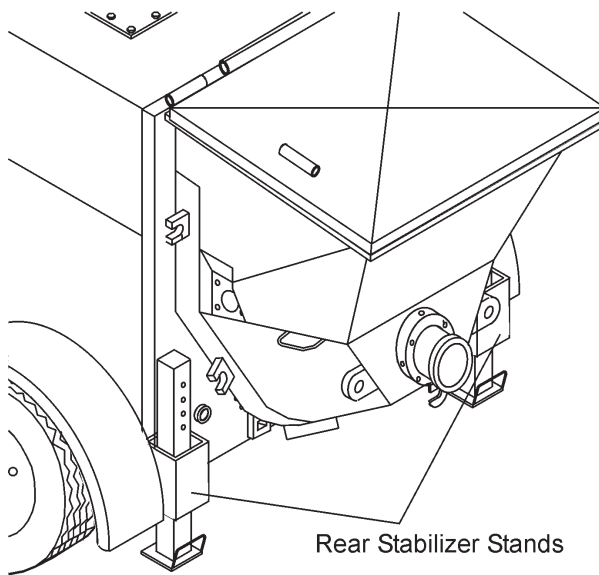

Figure 16. Locating Rear Stabilizer Stands
- Locate both the left and right rear stabilizer stands (Figure 16).